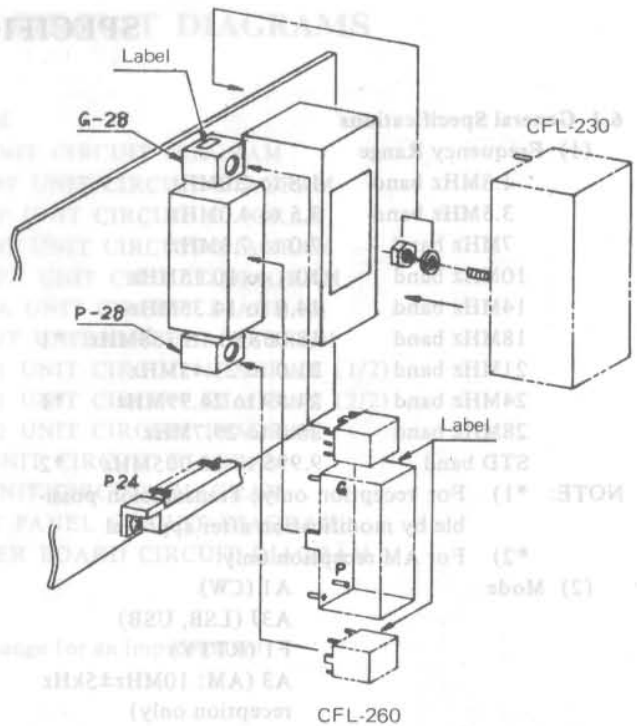

Figure 5.9 Mounting the Optional Filters
- (1) Take out the IF amplifier unit, CAE-137, according to the procedure denoted in Paragraphs 4.1 through 4.3.
- (2) Mount the optional filters, CFL-260 and/or CFL-230 on the IF AMP unit, as shown in Figure 5.9. Solder the filters: